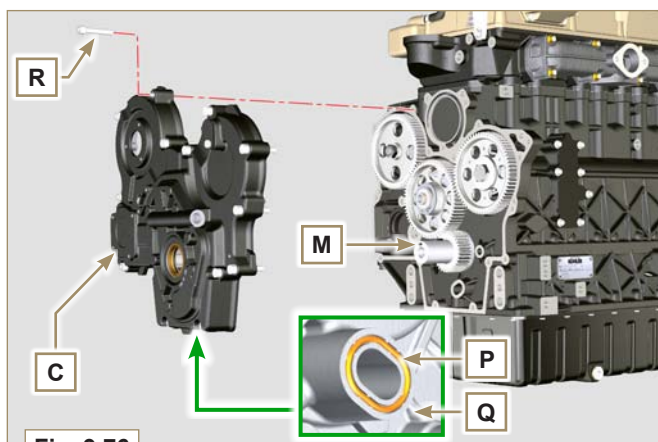

Fig. 9.76
- 2 - Make sure that the key **M** (**Fig. 9.76**) is inserted properly on the crankshaft and that it is facing upwards.